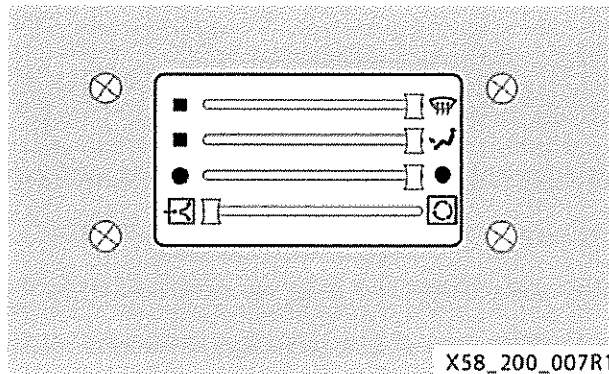

Fig 7 Maximum heating
- 19 Refer to Fig 7. To obtain maximum heating, proceed as follows: